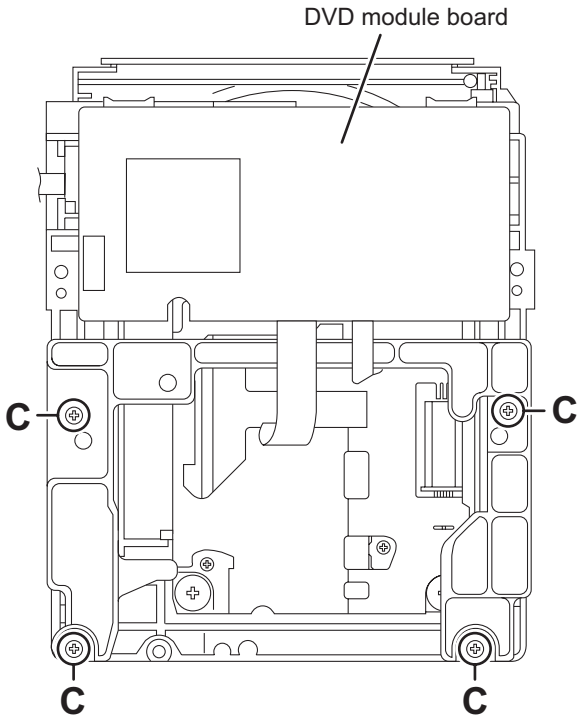

Fig.3
- (3) Remove the four screws **C** attaching the CB holder and take out it. (See Fig.3)